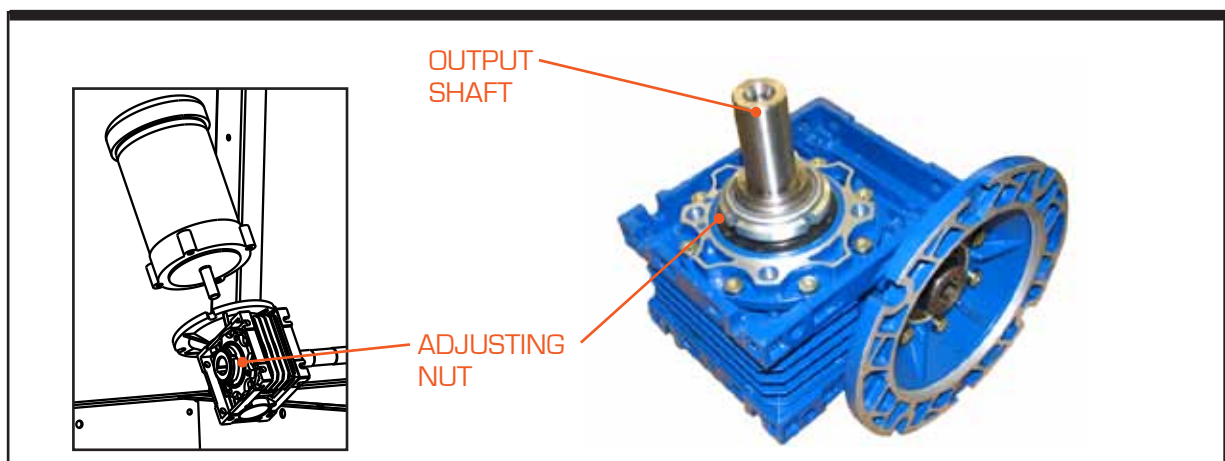

Figure 4-3. Motovario Reducer - Torque Limiter Adjustment
- Step 2. Gain Access.** Access the torque limiter adjusting nut (see Figure 4-3). The nut is located on the outboard side of the speed reducer and is readily accessible.
- Step 3. Adjust the Torque Limiter.** Using the spanner wrench, loosen or tighten the adjusting nut of the Motovario reducer (see Figure 4-3). By turning the nut clockwise, you will tighten the torque limiter, decreasing slippage. By turning the nut counter-clockwise, you will loosen the torque limiter, increasing slippage. The adjustment of the torque limiter varies from application to application and should be determined by the equipment manufacturer or manufacturers representative. The general rule would be to adjust the torque limiter until the chain moves with minimum slippage when power is turned on.